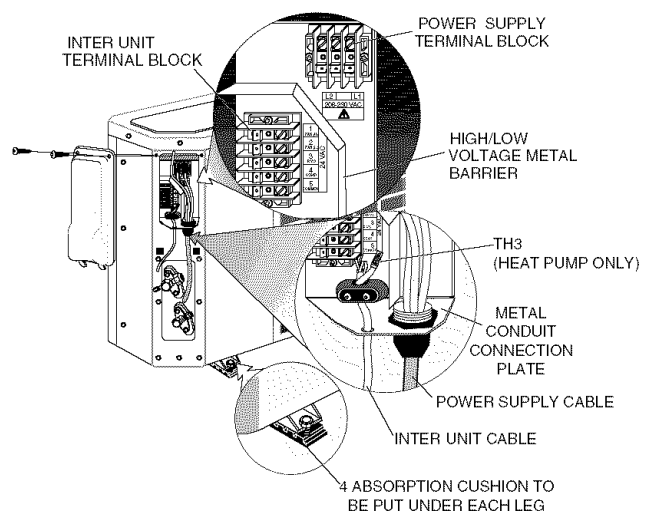

Fig. 12 — Legs and Mounting Base — Outdoor Units
2. Fasten the outdoor unit legs to the mounting base, as shown in Fig. 12. The cushion goes between the legs and the mounting base.
6. Secure the inter-unit electric and sensor cable to the outdoor unit with the clamp shown in Fig. 12.